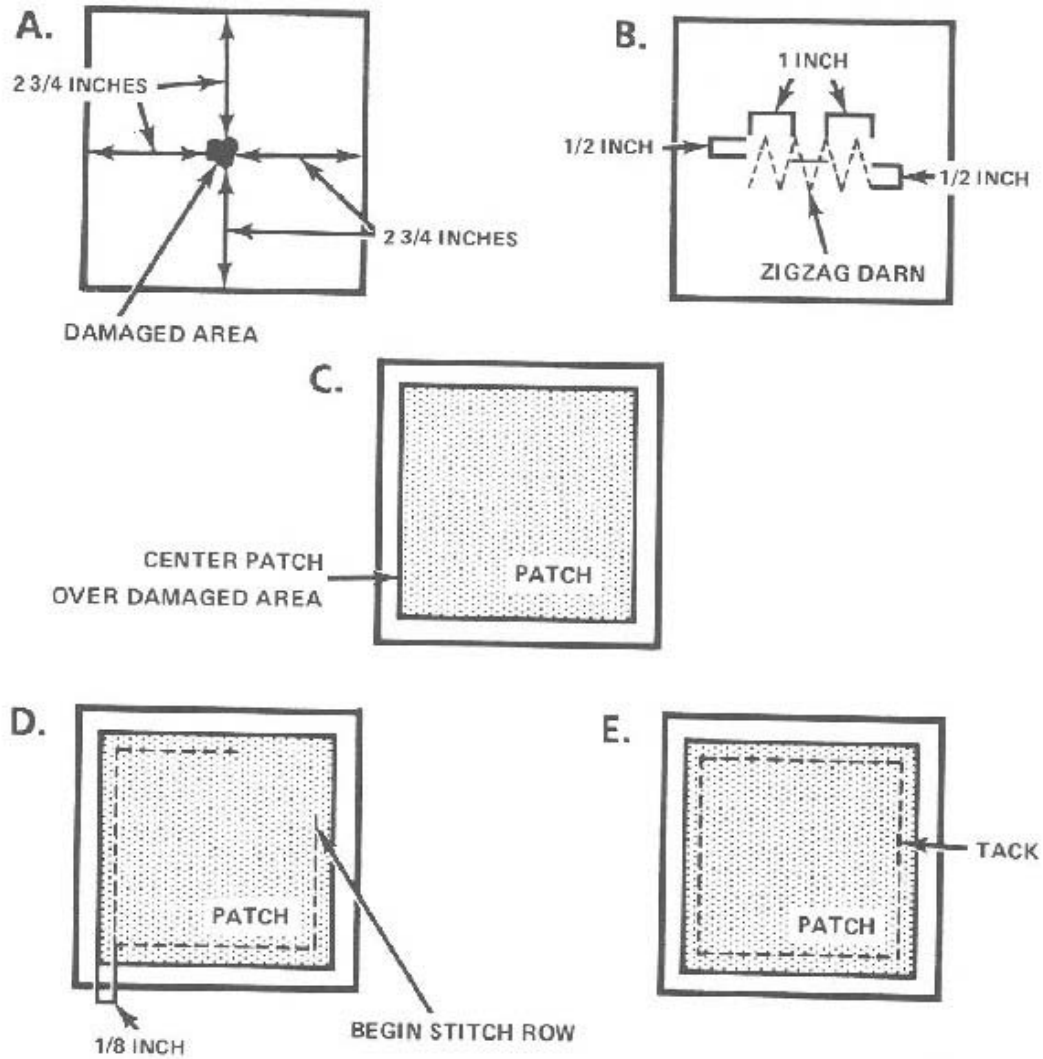

Figure 3-117
- d. Fold under 1/2-inch around the inside of the patch and measure and mark 1/8-inch for the stitch line from the felled or folded edge.(See Figure 3-117)